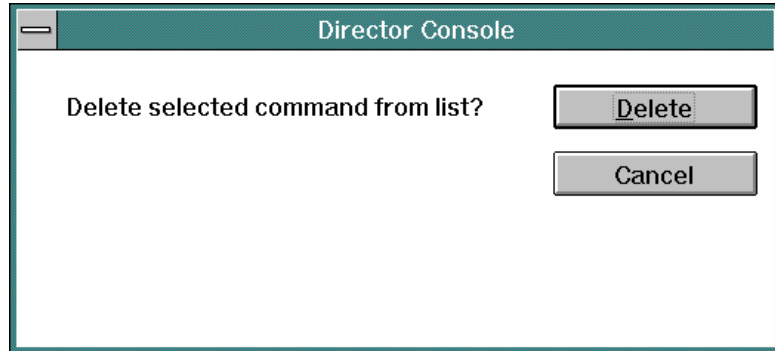

Figure 85. Delete Command Dialog Box
- **Delete Command** - When a list item is selected (highlighted) and the *Delete Command* button is clicked, the following dialog box appears (Figure 85).